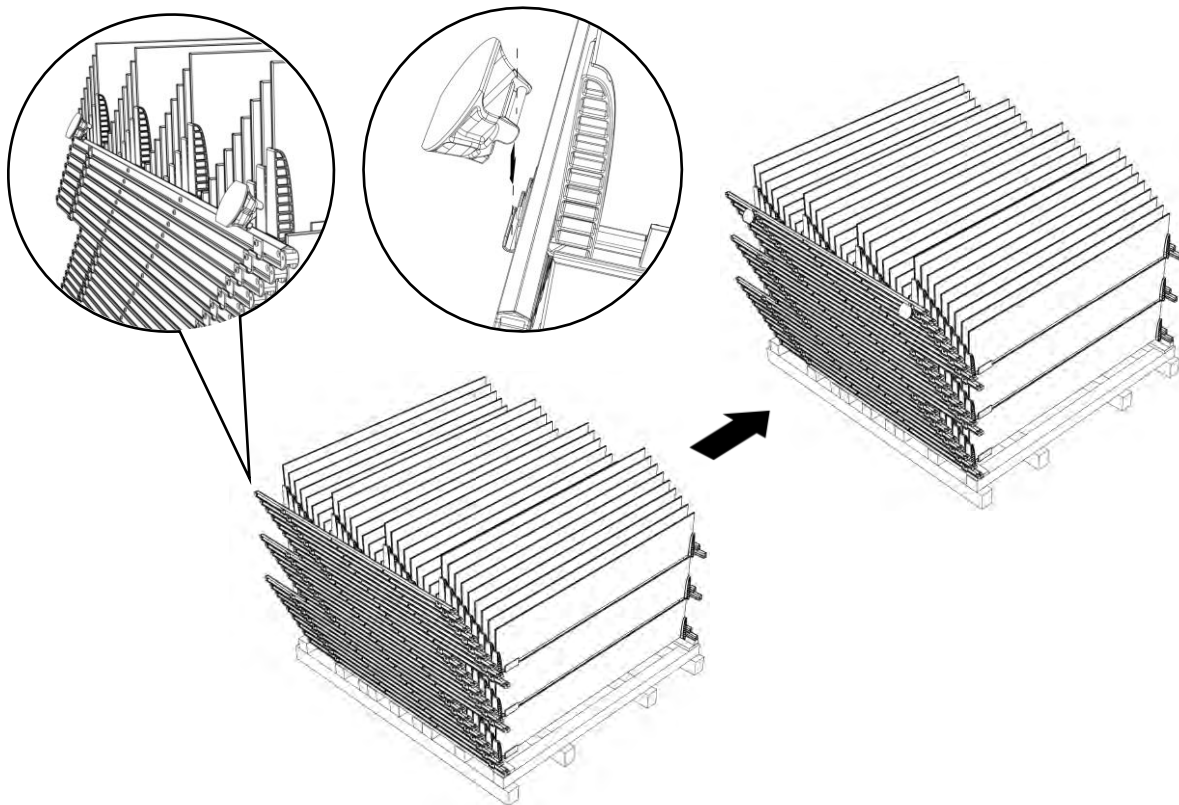

Figure 9: Attaching the feet to the VPV unit's main beam while still on the pallet.
2. Attach the feet to the hooks of this main beam as shown in Figure 9.